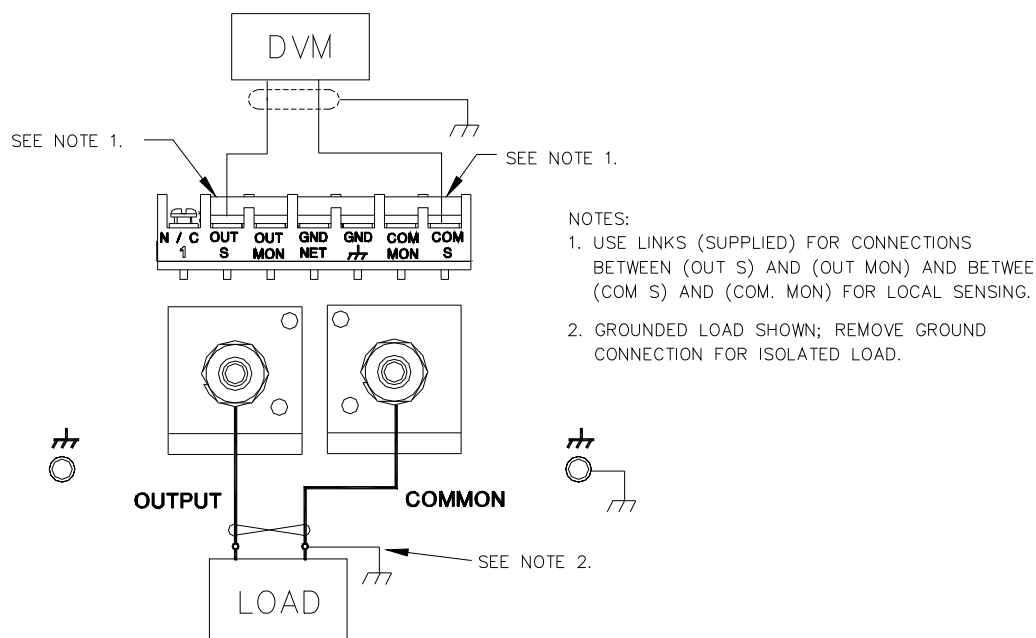

FIGURE 2-2. LOAD CONNECTIONS, LOCAL SENSING
2. IF LOCAL SENSING IS USED, INSTALL LINKS (see Figure 2-2).
Figure 2-2 shows a typical configuration using local sensing and a grounded load; for local sensing with an isolated ("floating") load, do not install the ground connection (see Figure. 2-2, Note 2).